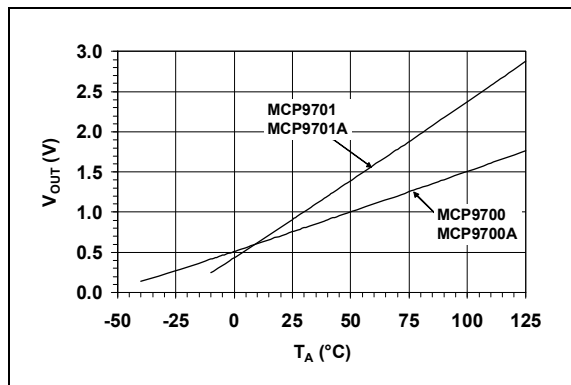

FIGURE 2-16: Output Voltage vs. Ambient Temperature.
- 2:** The MCP9700/9700A and MCP9701/9701A family is characterized using the first-order or linear equation, as shown in Equation 4-2. Also refer to Figure 2-16.
2: The MCP9700/9700A and MCP9701/9701A family is characterized using the first-order or linear equation, as shown in Equation 4-2. Also refer to Figure 2-16.
The Linear Active Thermistor™ IC uses an internal diode to measure temperature. The diode electrical characteristics have a temperature coefficient that provides a change in voltage based on the relative ambient temperature from -40°C to 150°C. The change in voltage is scaled to a temperature coefficient of 10.0 mV/°C (typical) for the MCP9700/9700A and 19.5 mV/°C (typical) for the MCP9701/9701A. The output voltage at 0°C is also scaled to 500 mV (typical) and 400 mV (typical) for the MCP9700/9700A and MCP9701/9701A, respectively. This linear scale is described in the first-order transfer function shown in Equation 4-1 and Figure 2-16.